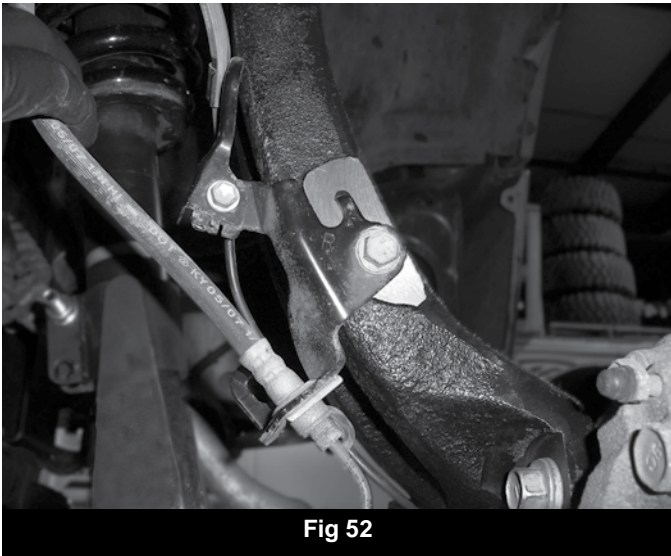
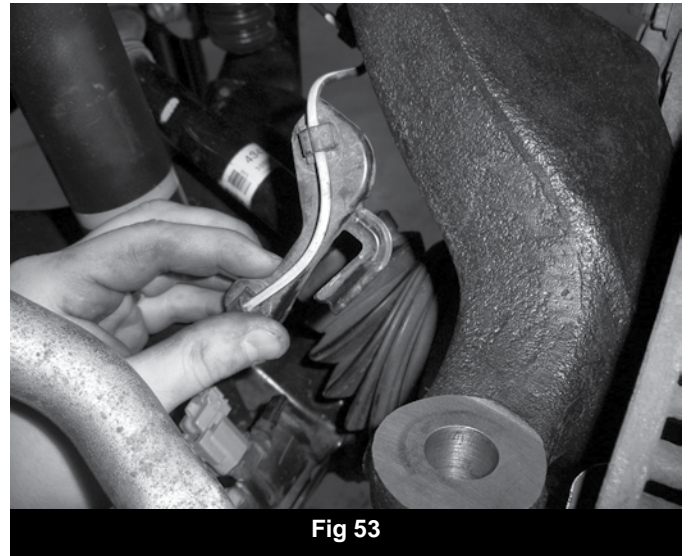

Fig 52
Fig 53
74. Attach the ABS wire bracket to the backside of the knuckle in the provided tapped hole with the original bolt (Fig 52). On the driver's side it will be necessary to remove the extra tab on the bracket to mount it properly (Fig 53). The ABS line can be slid in the plastic retainer clips that attach to the metal brackets to adjust the line for proper slack. Lubricate the line with spray lubricant and pull through the plastic clips as necessary. Torque bracket bolt to 8 ft-lbs.